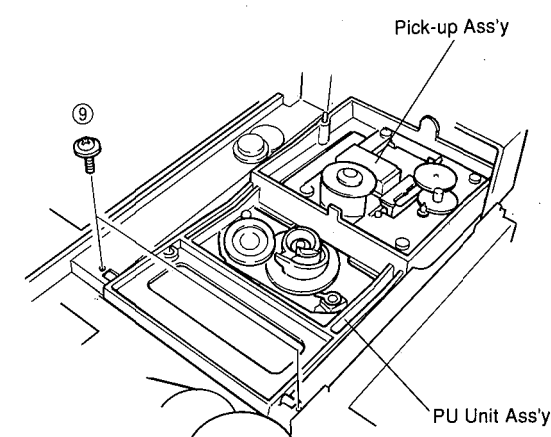

Fig. 3
- Remove 2 screws (⑨) and then remove the PU Unit Ass'y in Fig. 3.